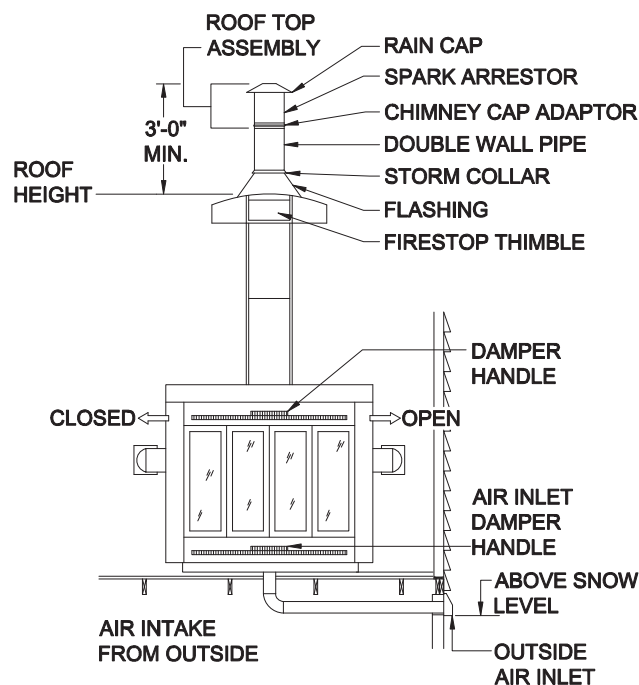

Figure 73. Chimney and combustion air intake duct installation
2. **Install chimney pipe.** Assemble and seal the chimney per the fireplace or wood stove manufacturer's installation instructions and if there is a conflict between the instructions and the figure, follow the instructions. To assure sufficient draft for proper operation, extend the chimney at least three feet above the highest point where it penetrates the roof and at least two feet higher than any surface within 10 feet of the chimney (**Figure 73**). Use additional section(s) of chimney pipe (not provided) if required by local code or if the site has obstructions within 10 feet of the chimney.